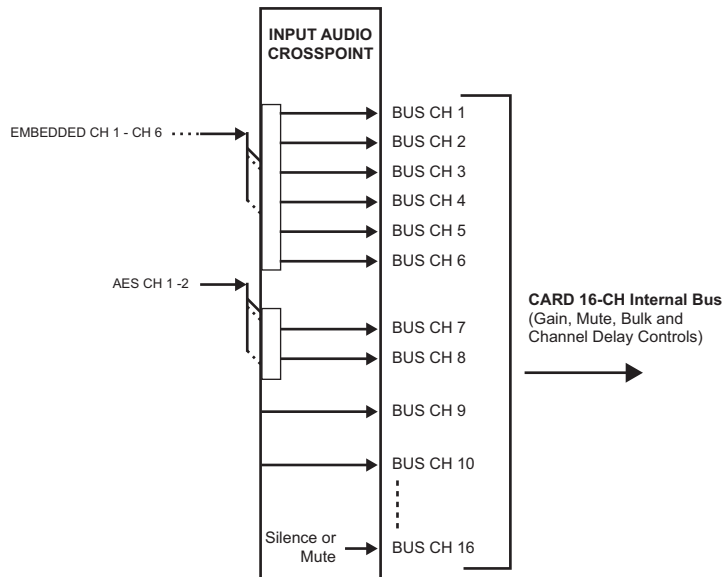

Figure 14.3 Example of the Input Audio Routing Workflow
**Figure 14.3** illustrates a workflow where all audio inputs are transferred through the AAP-8644 via the 16-channel Internal Bus (Bus Ch 1 to Bus Ch 16) where each bus channel provides Gain, Mute, and Invert controls. The source-to-destination correlation shown in **Figure 14.3** is only an example; any of the sources described on the following pages can route to any of the internal bus channels.